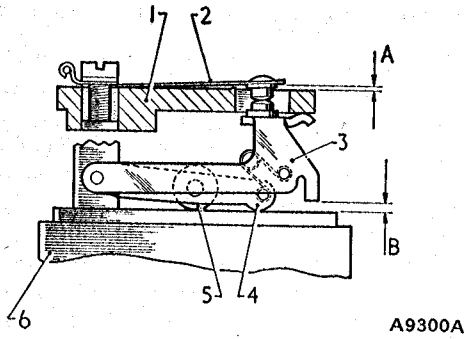

Fig. 12. The rocker finger settings on modified rocker assemblies
24. Check the lift of the contact blade tip above the top of the pedestal (A) (Fig. 12) with a feeler gauge, bending the stop-finger beneath the pedestal, if necessary, to obtain a lift of $.035 \pm .005$ in. ($.9 \pm .13$ mm.).
25. Check the gap between rocker finger and coil housing (B) (Fig. 12) with a feeler gauge, bending the stop-finger, if necessary, to obtain a gap of $.070 \pm .005$ in. ($1.8 \pm .13$ mm.).